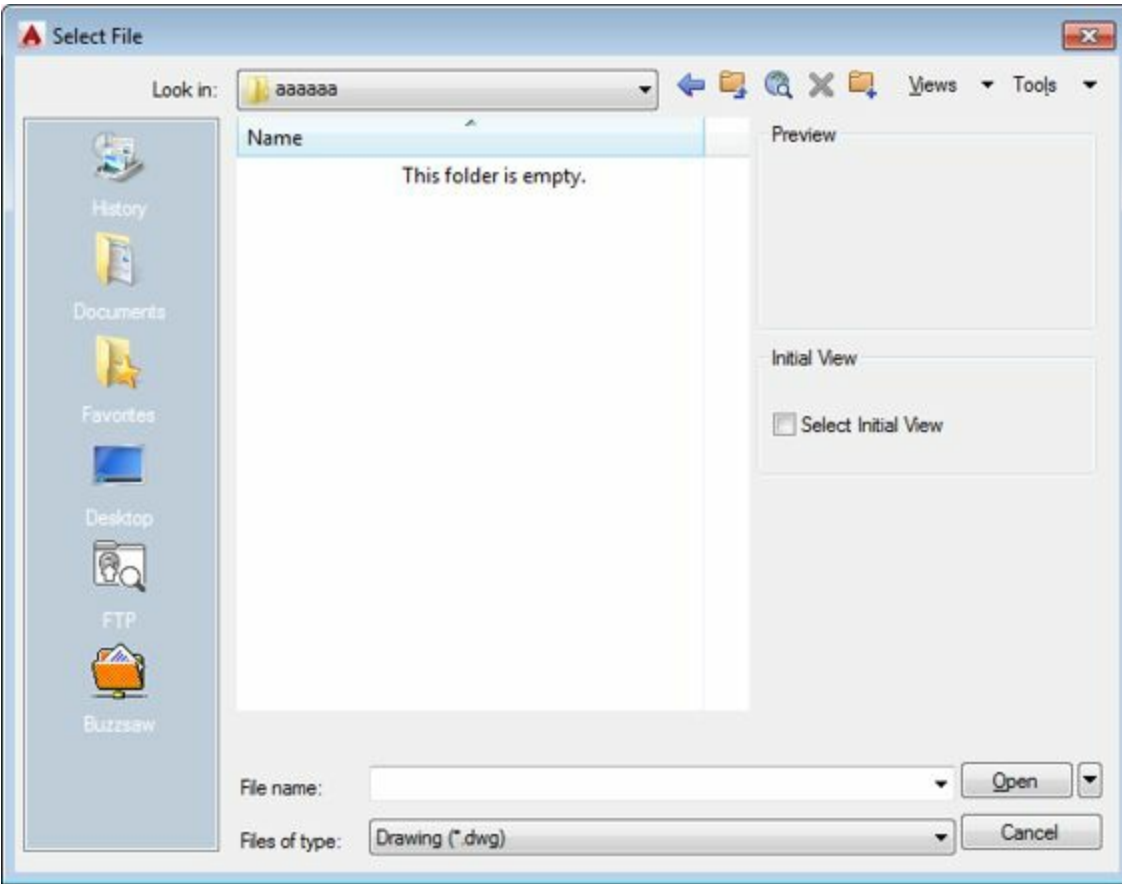

Figure-26. Select File dialog box
- Click on the **Drawing** option from the **Open** options in the **Application Menu**. The Select File dialog box will be displayed as shown in Figure-26.